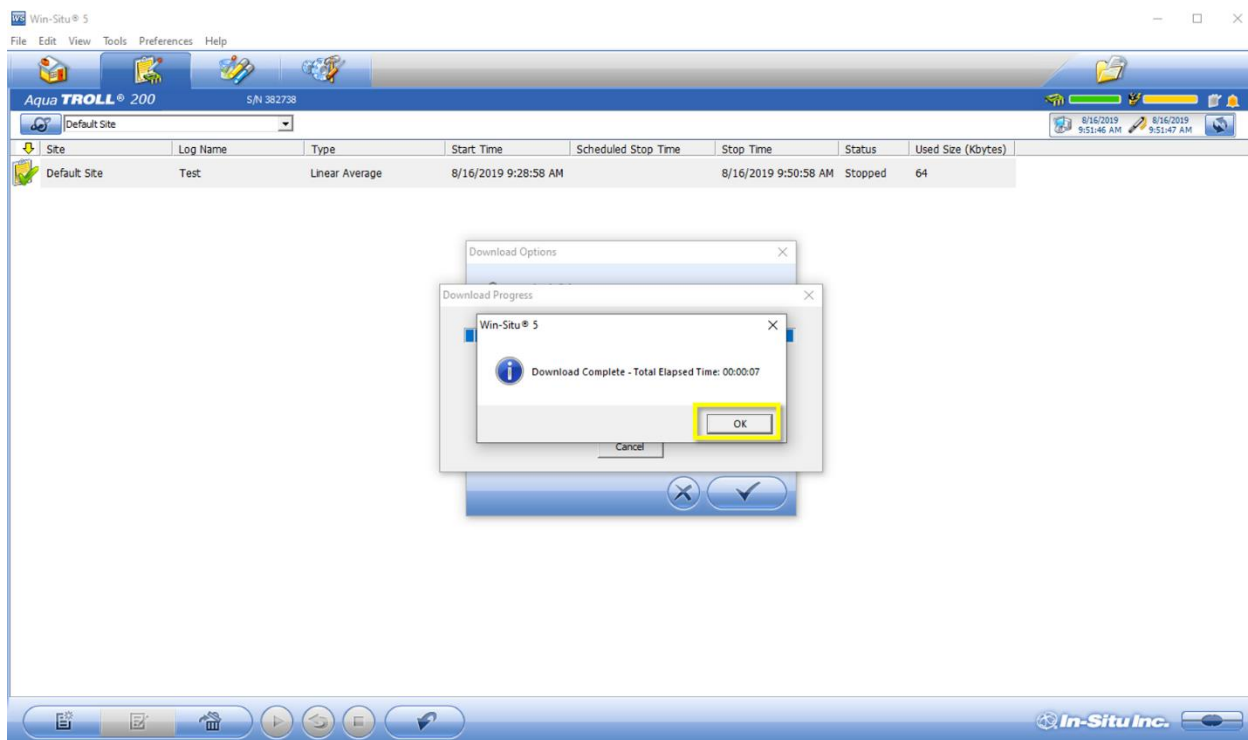

Figure 27. Click "OK" Again to Proceed
- Once the download is complete, another pop-up window appears to confirm its completion. Click "OK" (Figure 27).